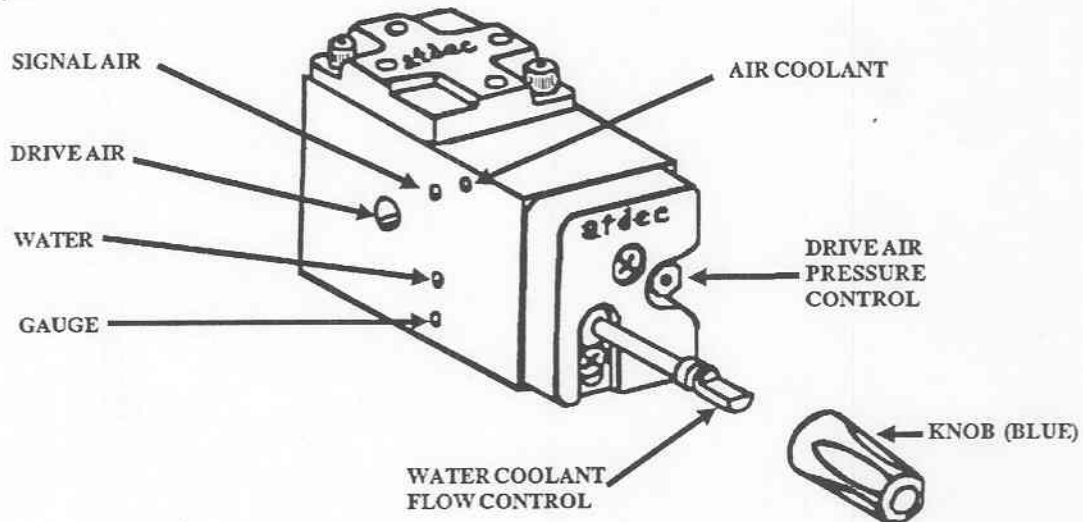
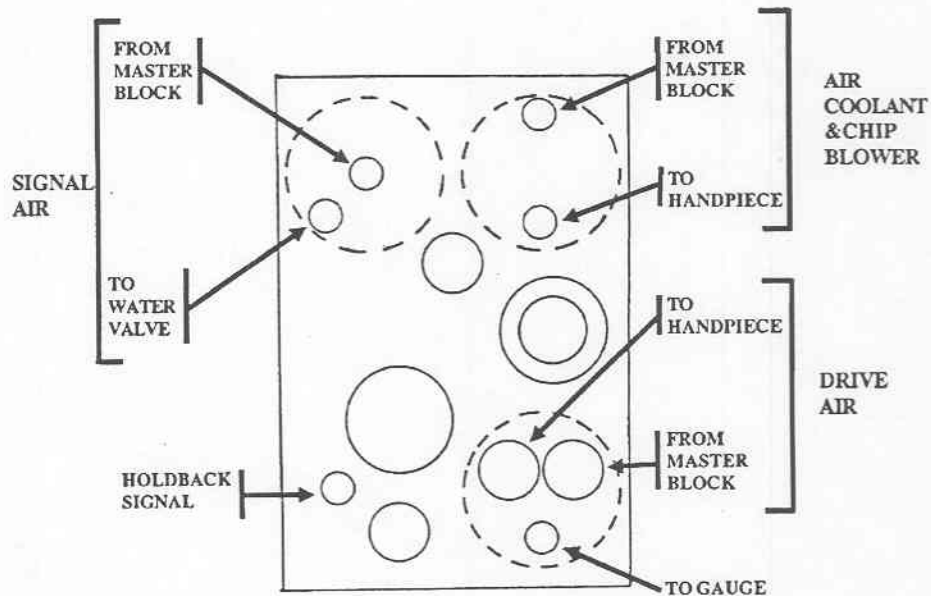

Figure 1-2. Control block assembly.
Figure 1-3. Control block detail (front view).
(1) Each control block assembly has laterally-drilled passages for drive air, water coolant, air coolant/chip blower, and signal air (fig 1-2). These passages align with the outlet passages in the end of the block assembly. In each block, the lateral passages intersect with longitudinal passages that lead to the front surface of the block. Parallel to these passages, other longitudinal passages lead to the handpiece drive air barb, the handpiece pressure gauge, the handpiece air coolant barb, and the cap of the water valve (fig 1-3). It is here, at the front of the block assembly that the air from the foot control is either held back or allowed to flow through and operate the handpiece.